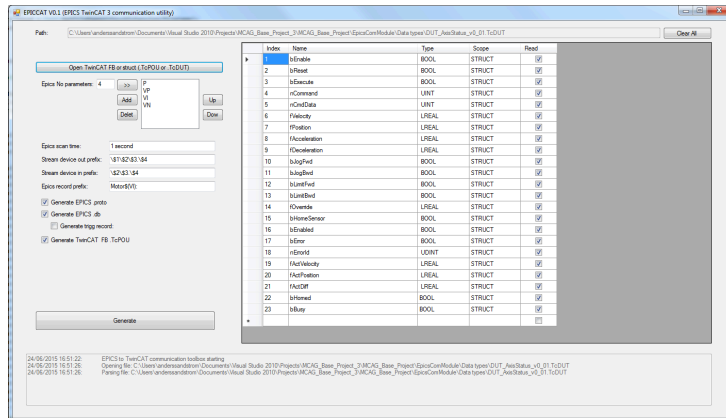
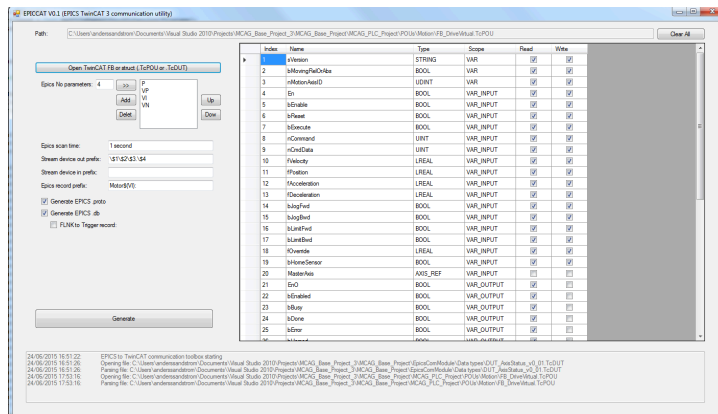

Figure 11: EPICS TwinCAT 3 communication utility (structures)
Figure 12: EPICS TwinCAT 3 communication utility (function block)
An tool to generate EPICS configuration files (*.proto and *.db files) from defined TwinCAT 3 structures (DUT) or function blocks (FB) have been developed, see Figure 11 and Figure 12. The tool can open TwinCAT structures or function blocks and generate EPICS configuration files for selected variables. The tool also allows optimization for use of macros on the EPICS side.